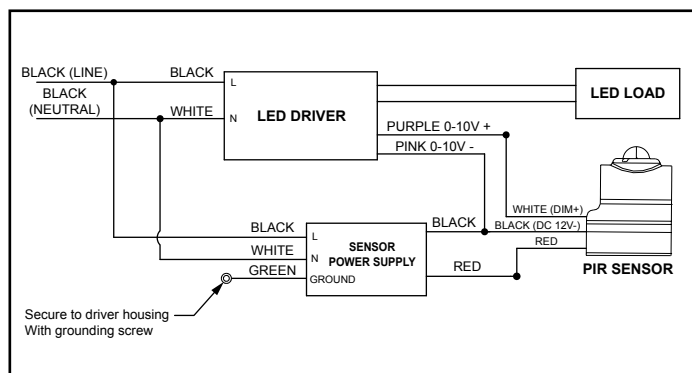

Figure 2
3. Route the wires from the sensor bracket through the K.O. at the side and connect as per wiring diagram. see Fig 2.